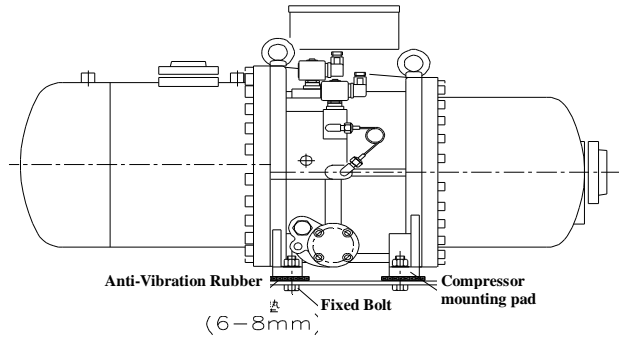

Figure 1.6 Absorber installation
- To avoid the compressors' harmonic vibration transferred by the structure and piping of the chiller while in operation, the cushion or shock absorber should be installed in the suction and discharge tube. The Cleanliness of the system should be kept after welding the piping to avoid any swarf or debris contained inside the system, because it may cause serious damage to the compressor during operation. Figure 1.6 shows a 6 to 8 mm shock Absorber installed under the compressor mounting pad to isolate the vibration and the noise transferred to other portions.